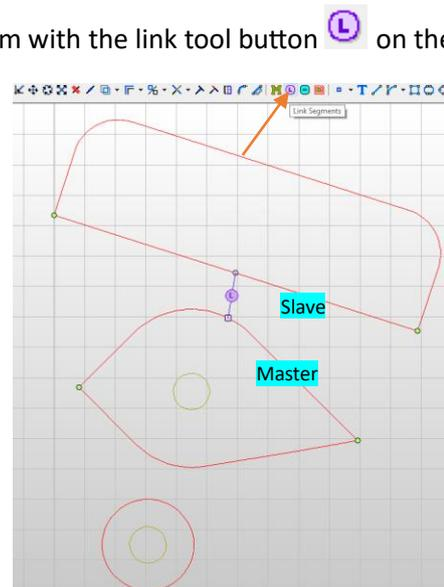

Figure 178
15. After splitting our mastercuts into segments we can link them with the link tool button **L** on the Main Toolbar (Figure 178) or using the **-LINK-** Command.
16. Next the Command Prompt states to select a master segment (Figure 178).